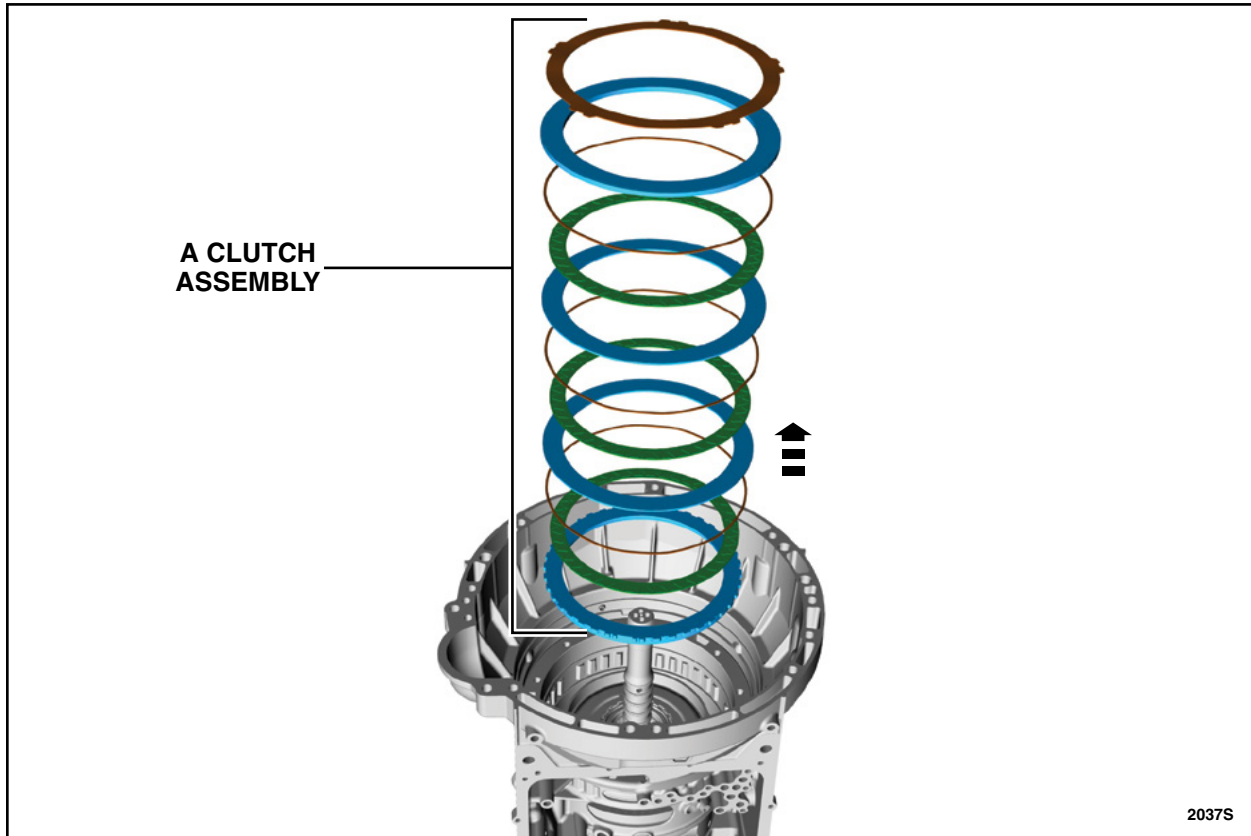

FIGURE 11
14. Using a magnet, remove the A clutch assembly. See Figure 11.